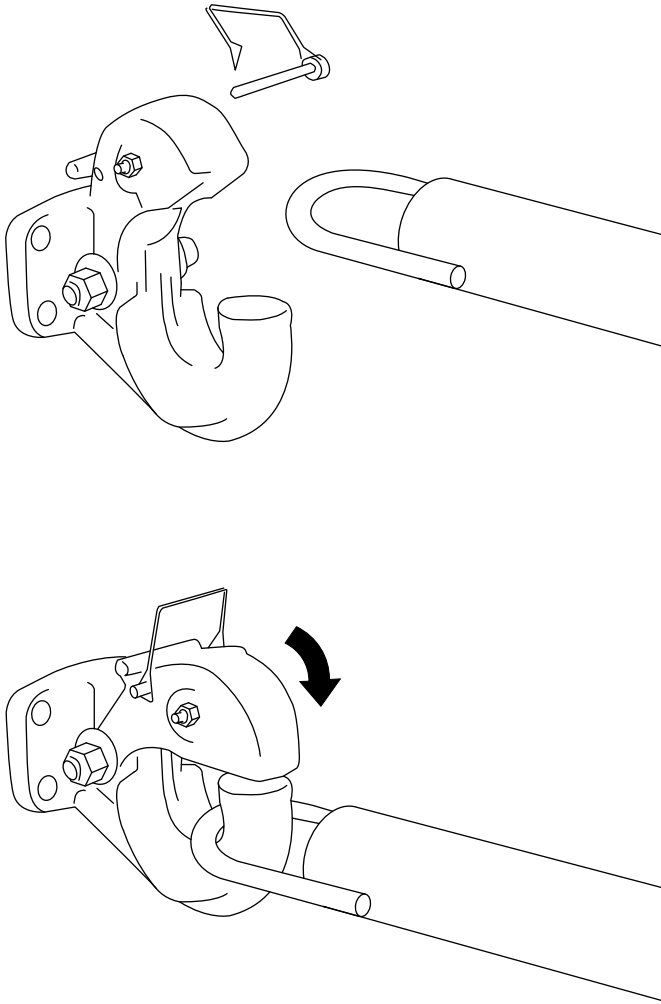

Figure 19
1. Remove the pin from the pintle hitch and open it (Figure 19).
2. Position the ring on the tow pole onto the hook of the pintle hitch (Figure 19).
3. Close the top of the pintle hitch and secure it with the pin (Figure 19).